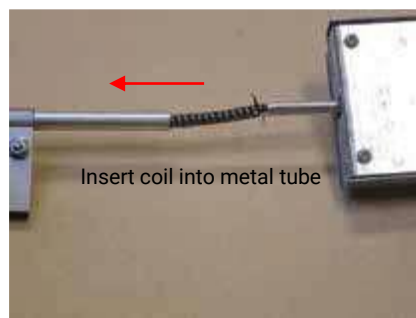

Figure 6
6. Feed the coil drive cable through the aluminium tubes and wiper shafts (figure 6). Make sure the wiper shafts spin when coil is fed through gear. The remaining coil can be cut once installation is finalised.